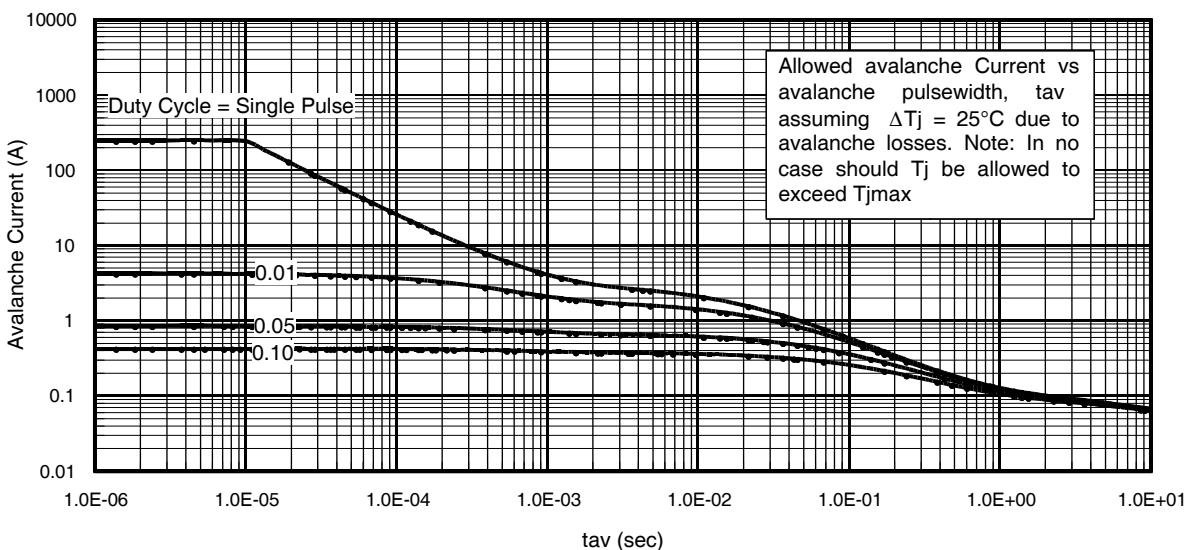

Fig 12. Typical Avalanche Current vs.Pulsewidth
Notes on Repetitive Avalanche Curves , Figures 12, 13:
7. ΔT = Allowable rise in junction temperature, not to exceed T_{jmax} (assumed as 25°C in Figure 12, 13).